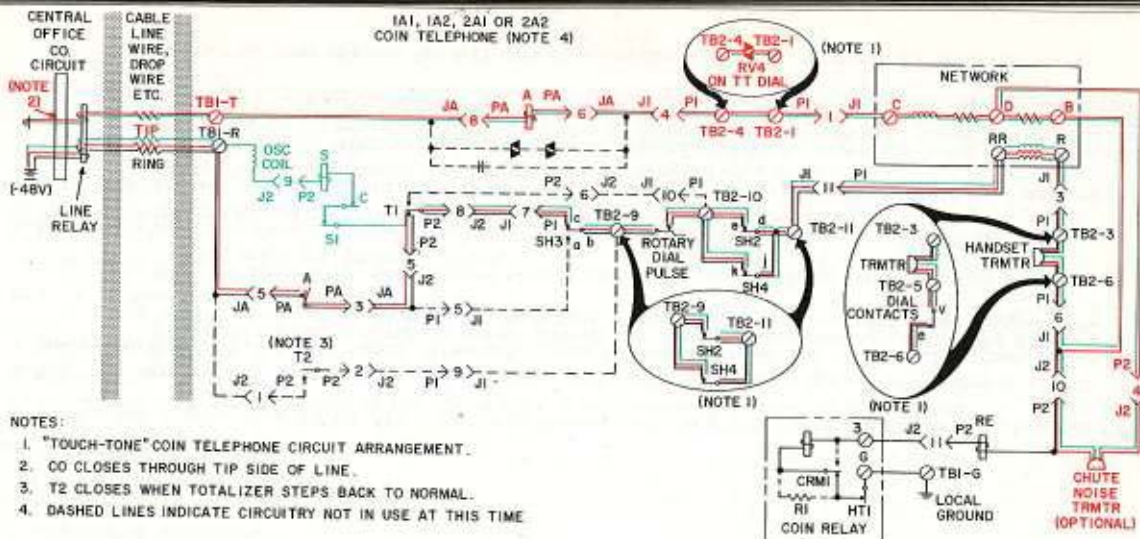

Fig. 20 — Initial Rate Deposited — Origination State
- Fig. 20 — Initial Rate Deposited — Origination State
LEGEND FOR FIG. 20